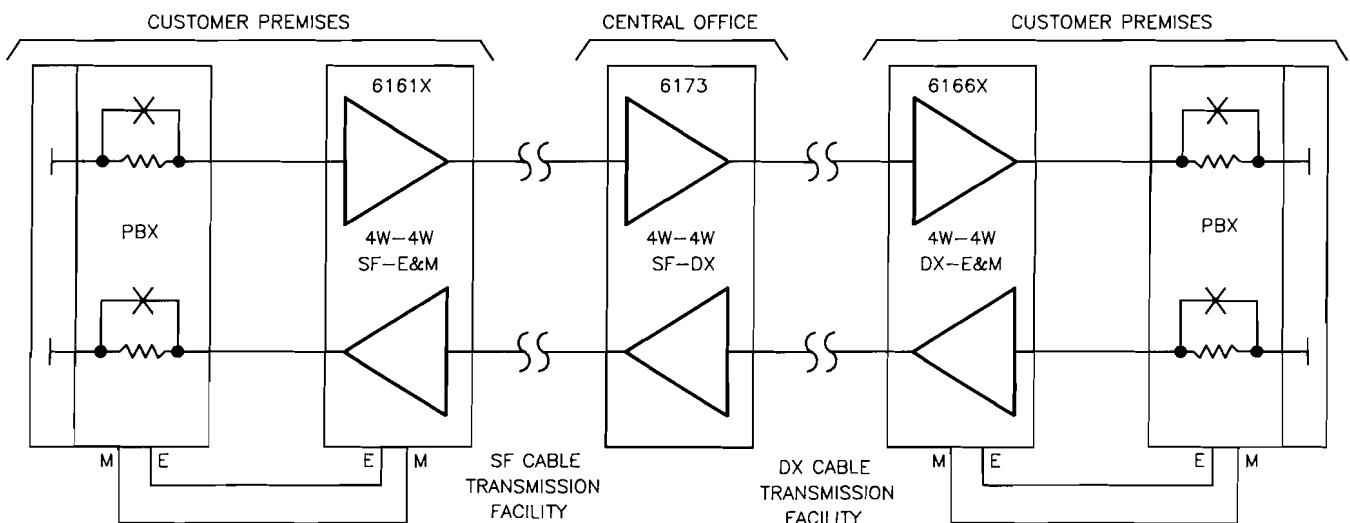

figure 2. Typical application of 6173 module
2.01 The 6173 4Wire-to-4Wire SF-to-DX Intermediate Repeater module is typically used at a telephone company central office (CO) to interface a 4wire SF transmission facility, convert that facility's SF signaling to duplex (DX) signaling, and extend that signaling to a distant termination (e.g., a PBX at a customer's premises). DX signaling, which is extended toward the termination via DX signaling leads to the facility pairs, is used in applications requiring greater signaling range than would be possible with conventional E&M signaling (which is extended toward the termination via separate E&M leads). The 6173 module combines the functions of a 4wire line amplifier, an SF transceiver, an SF-to-DX signaling converter, and a 4wire pad/transformer module. No external transmission interface circuitry is required because the 6173 is a complete SF signaling and terminating circuit, less power, on a single Type 10 card. Thus, the module provides not only bidirectional signaling conversion but also active transmission interface (impedance matching, level control, and amplitude equalization) between the SF facility and the DX trunk or line. Figure 2 shows a typical application.